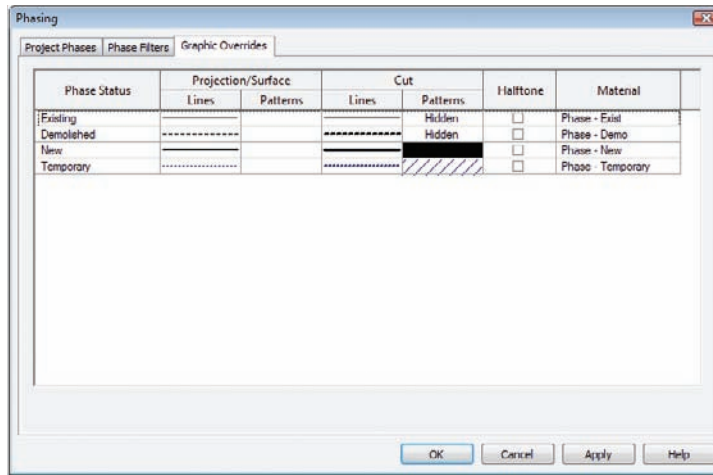

FIGURE 21.20 Graphic Overrides tab
8. In the Phasing dialog, click the Graphic Overrides tab. Here you can see that you can change the line types and the shading for each phase status (see Figure 21.20). Click OK.